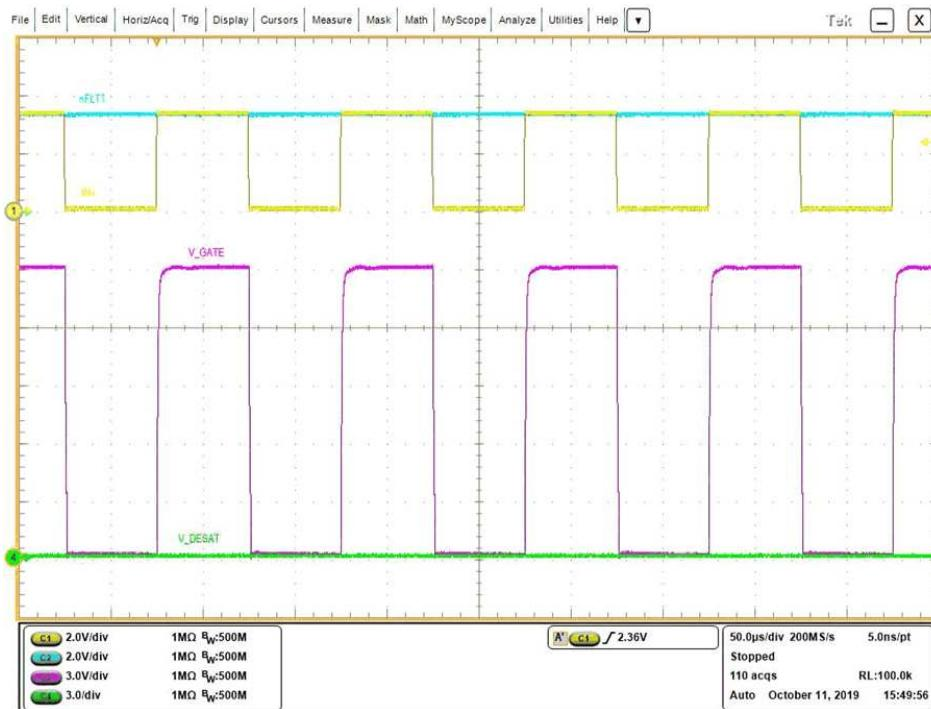

Figure 15. Continuous PWM Waveforms
12. After click "Stark PWM", PWM waveforms in Figure 15 will be generated.